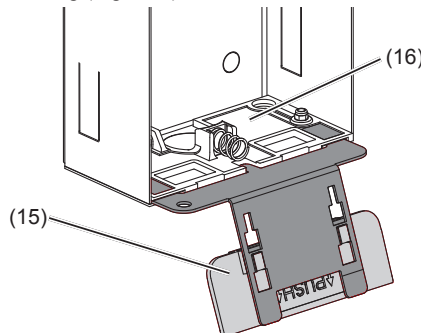

Figure 5: inserted opening tool
(14) Support bracket of the fastening elements
- Insert opening tool (15) into the mounting device of the lower fastening element (16) on the housing (Figure 5).